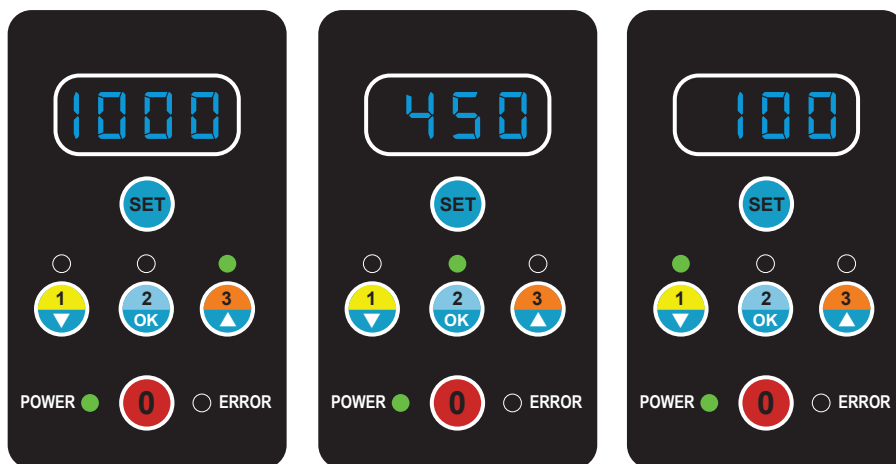

Figure 3
2. Once the priming cycle is complete, the watts for the selected power level will be shown in the LED display. (See Figure 3)
- If Power Level 2 is selected, the pump will run at that programmed setting for twenty-four (24) hours. After that time, the pump defaults back to Power Level 1. This 24 hour override is ideal when shocking the pool.
- If Power Level 3 is selected, the pump will run at that programmed setting for two (2) hours. After that time, the pump defaults back to Power Level 1. This two-hour override is ideal for high bather loads or vacuuming the pool.